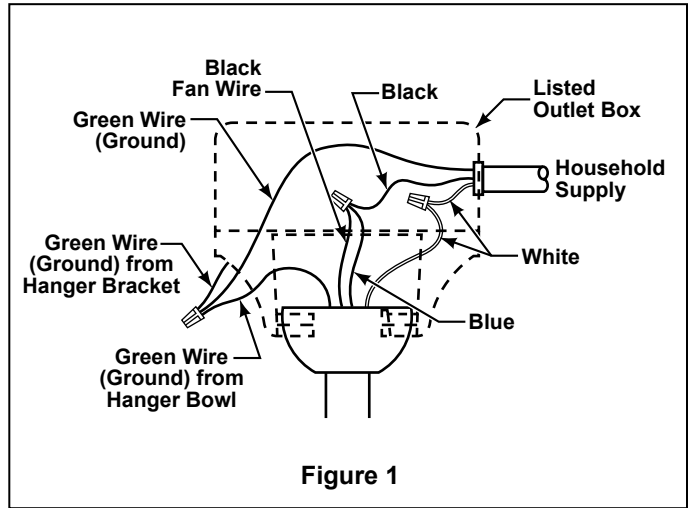

Figure 1
2. Securely connect the white fan motor wire to the white supply (neutral) wire using wire connector supplied. Securely connect the black fan motor wire and blue wire to the black supply wire using wire connector supplied (Figure 1). After connections have been made, turn leads upward and carefully push leads into the outlet box, with the white and green leads on one side of the outlet box and the black and blue leads on the other side of the outlet box.
3. With a Phillips screwdriver, tighten screws with flat washers to secure the blade. (Figure 1)